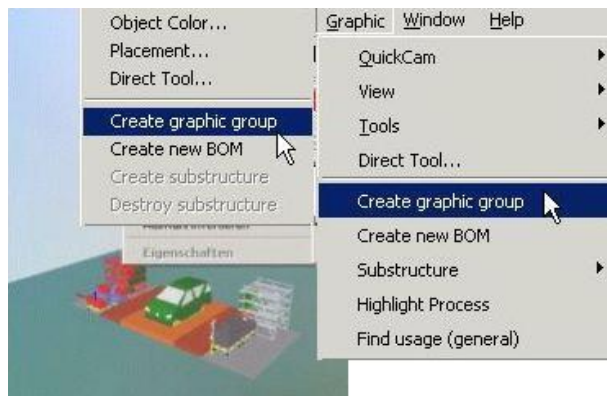

Figure 81: Creating Graphic Group: Context and Menu
- 2) Then click *Create graphic group*. This menu item is called in the context menu or in the Graphic menu. Please refer to the Figure 81.